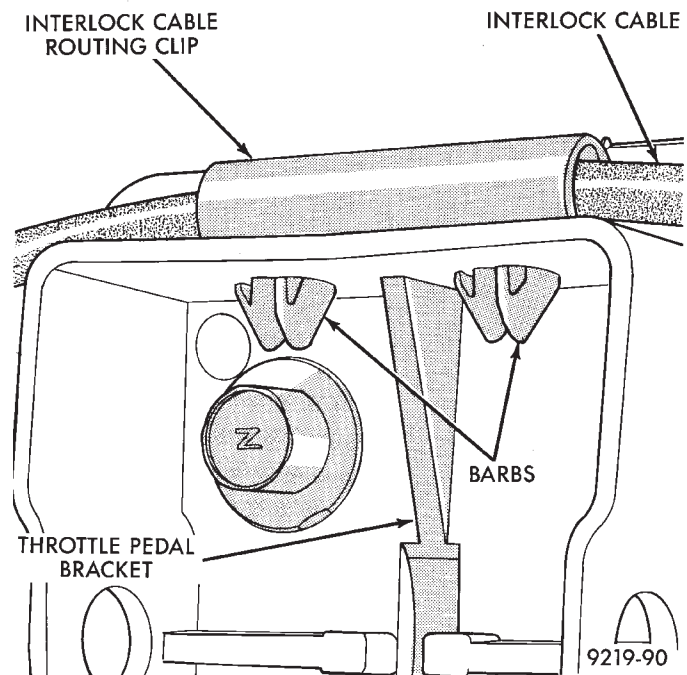

Fig. 12 Remove Interlock Routing Clip
(11) Remove the interlock cable routing clip from the throttle pedal bracket (Fig. 12). Removal of the
(5) Snap the interlock cable routing clip into the 2 holes on the throttle pedal mounting bracket (Fig. 12).